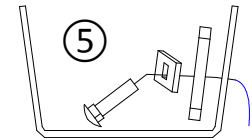

Figure 4
4. Feed the carriage bolt ① and spacer ② through frame rails opening using the pull wires ⑤. Pull the wires through slots on the bracket first and then holes on frame rails, as shown in Figure 4. Remove pull wires and loosely install conical washer ③ and hex nut ④ to the hitch.